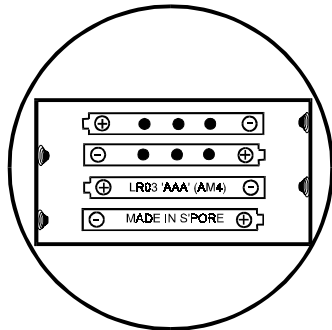

Figure 5: Battery position
2. Remove the battery cover. Note the polarity and insert the batteries into the battery compartment correctly (Figure 5).